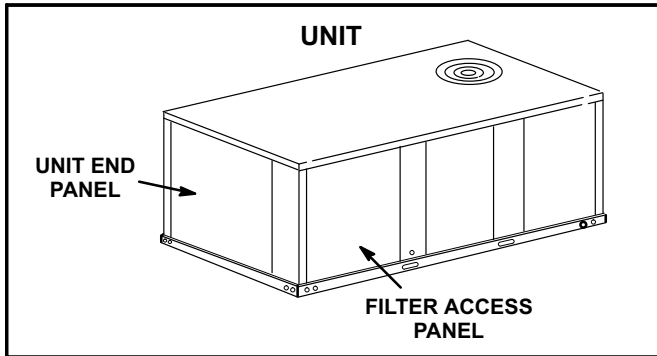

FIGURE 1
- 1- Open unit end panel. See figure 1.
- 1- Disconnect all power to unit and open filter access panel. See figure 1.